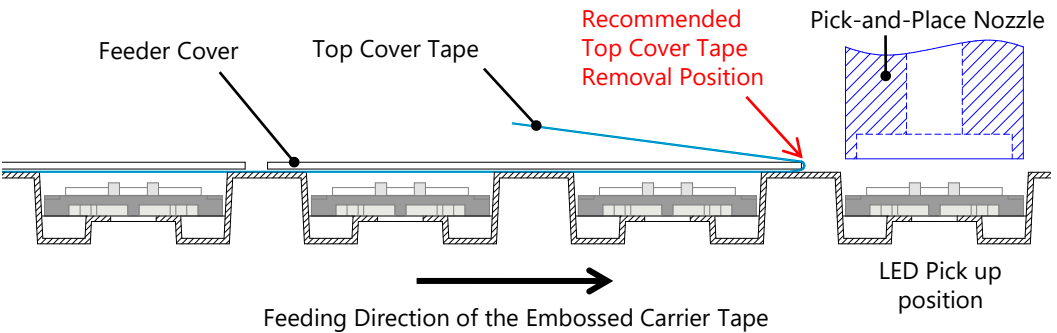

Figure 5. Recommended Top Cover Tape Removal Position
3. It is recommended to remove the top cover tape at the recommended position shown in Figure 5 (i.e. immediately before LED pick-up).